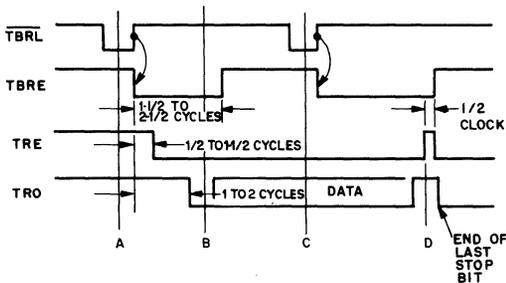

Fig. 3 - Transmitter timing waveforms.
Transmitter timing is shown in Fig. 3. (A) Data is loaded into the transmitter buffer register from the inputs TBR1 through TBR8 by a logic low on the TBRL input. Valid data must be present at least  $t_{DT}$  prior to, and  $t_{DD}$  following, the rising edge of TBRL. If words less than 8 bits are used, only the least significant bits are used. The character is right justified into the least significant bit, TBR1. (B) The rising edge of TBRL clears TBRE.  $\frac{1}{2}$  to  $1\frac{1}{2}$  cycles later, depending on when the TBRL pulse occurs with respect to TRC, data is transferred to the transmitter register and TRE is cleared. TBRE is set to a logic High one cycle after that.